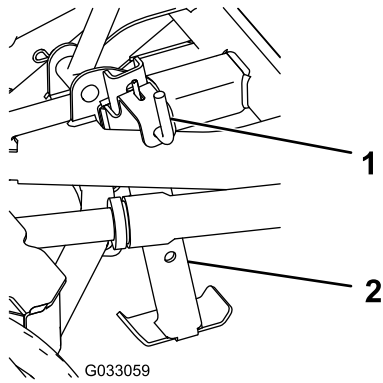

Figure 6
4. Pull the kickstand spring pin and insert the kickstand into the mounting bracket, then release the spring pin to lock the kickstand in place in the lowered position (Figure 6).